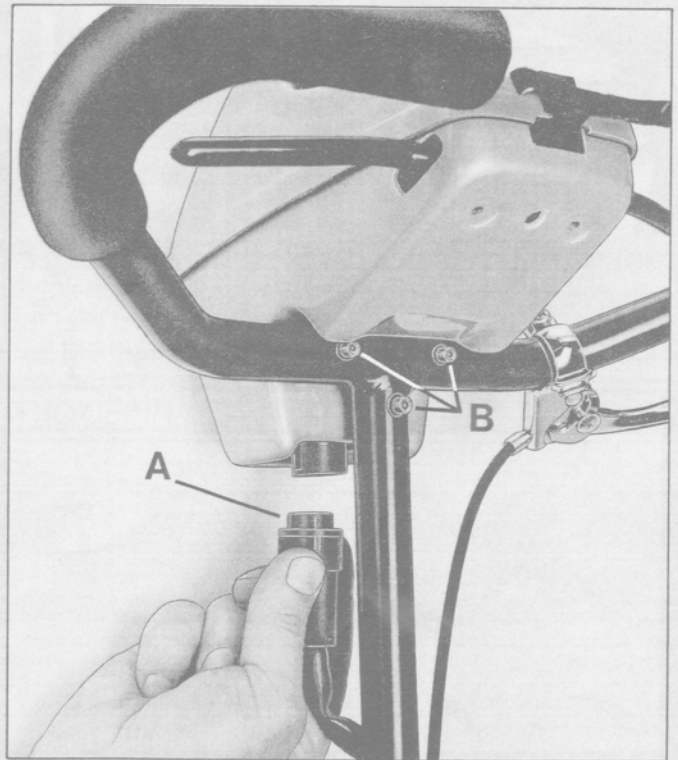

Fig. 21
- 1) Remove socket A from underside of control (Figure 21).